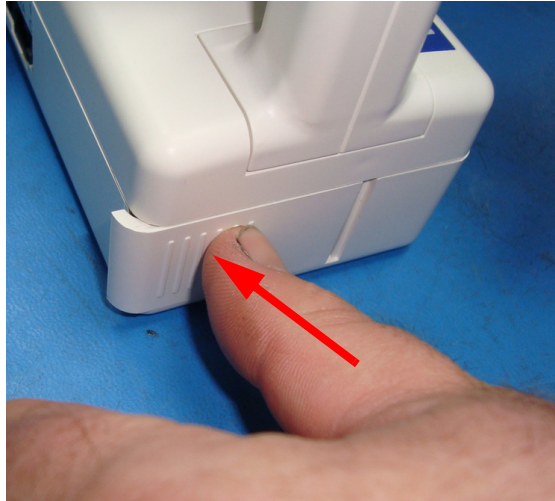

Figure 3-5 Close the Battery Compartment door
6. Close the door so that it is flush with the bottom of the HANDHELD. See Figure 3-5.